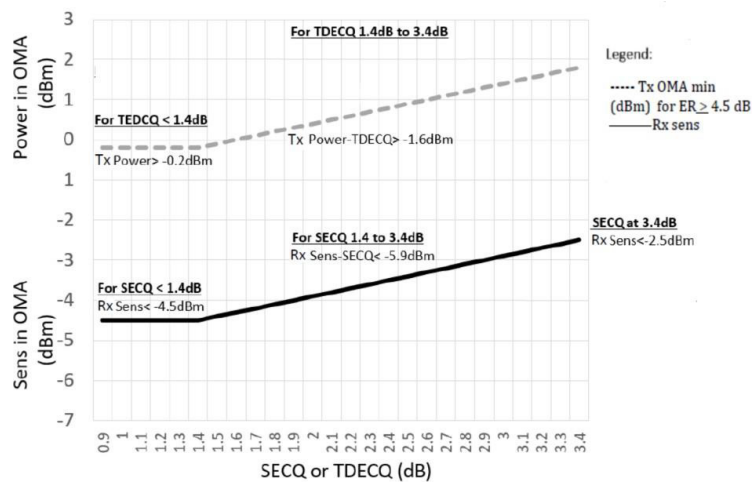

Figure 4. Illustration of Receiver Sensitivity Mask for 100G-FR
7. Receiver sensitivity (OMAouter) (max) is informative and is defined for a transmitter with a value of SECQ up to 3.4 dB. It should meet Equation (1), which is illustrated in Figure 4.